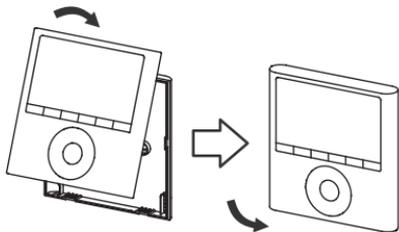

Fig 3-10
- While adjusting and mounting the upper case, avoid clamping the wiring during installation. (Fig 3-10)